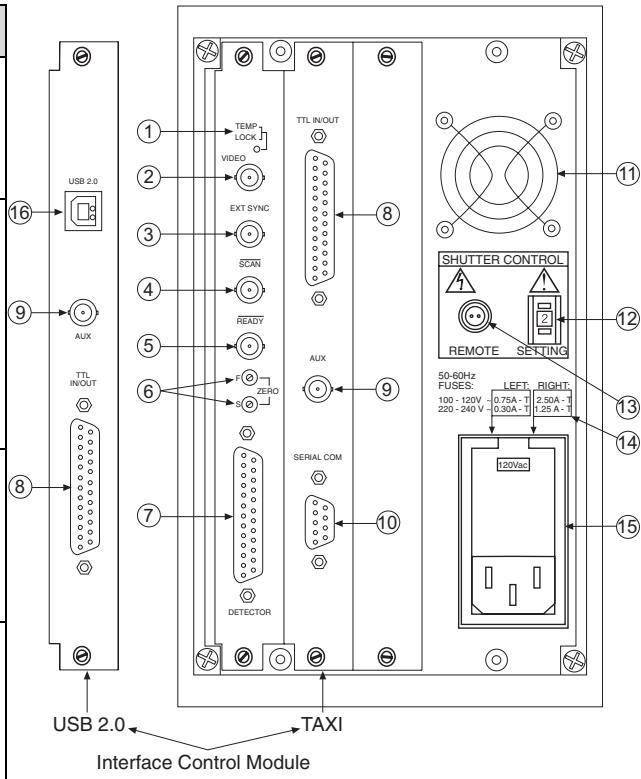

Figure 50. ST-133A Rear Panel Callouts
**Rear Panel Features:** The descriptions of the rear panel connectors are keyed to the accompanying figure. Depending on your system, either the TAXI or the USB 2.0 Interface Control Module will be installed in the second from the left slot (as you face the rear of the ST-133A). In the Figure 50, the TAXI module is shown in that position.